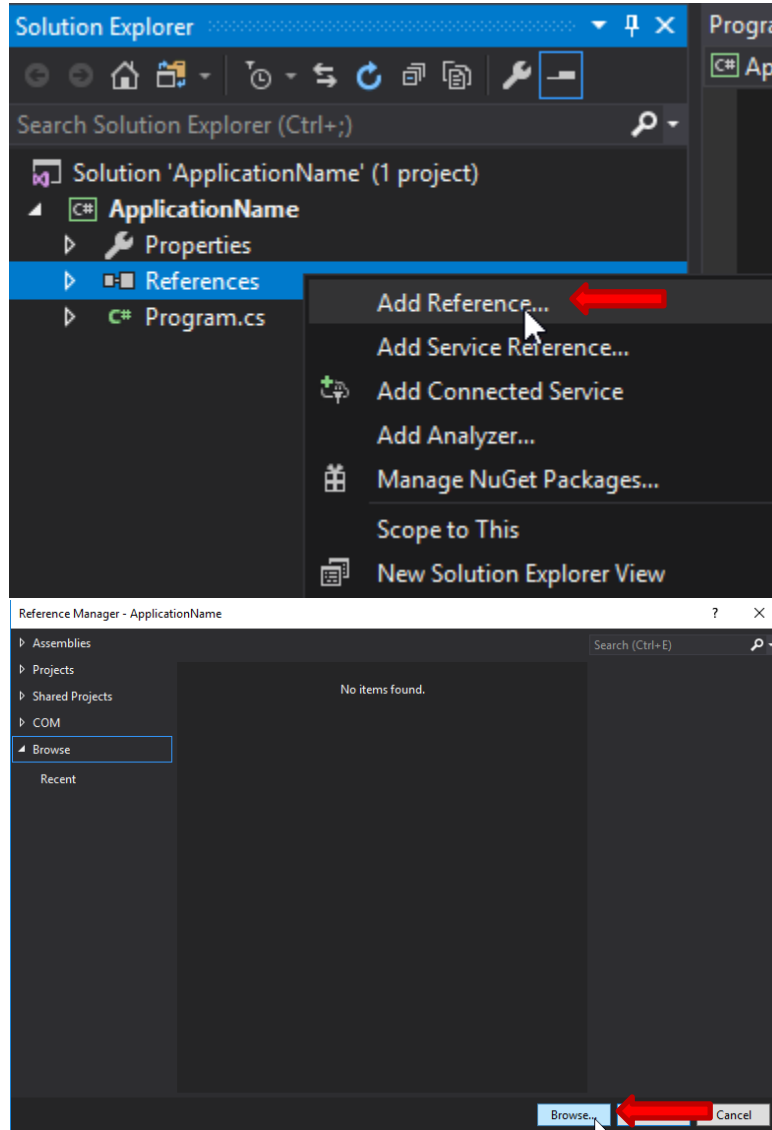

Figure 45 - VS2019 Add DLL to Project
- 3) Right click on References in the Solution Explorer view and select “Add Reference” per Figure 45 - VS2019 Add DLL to Project